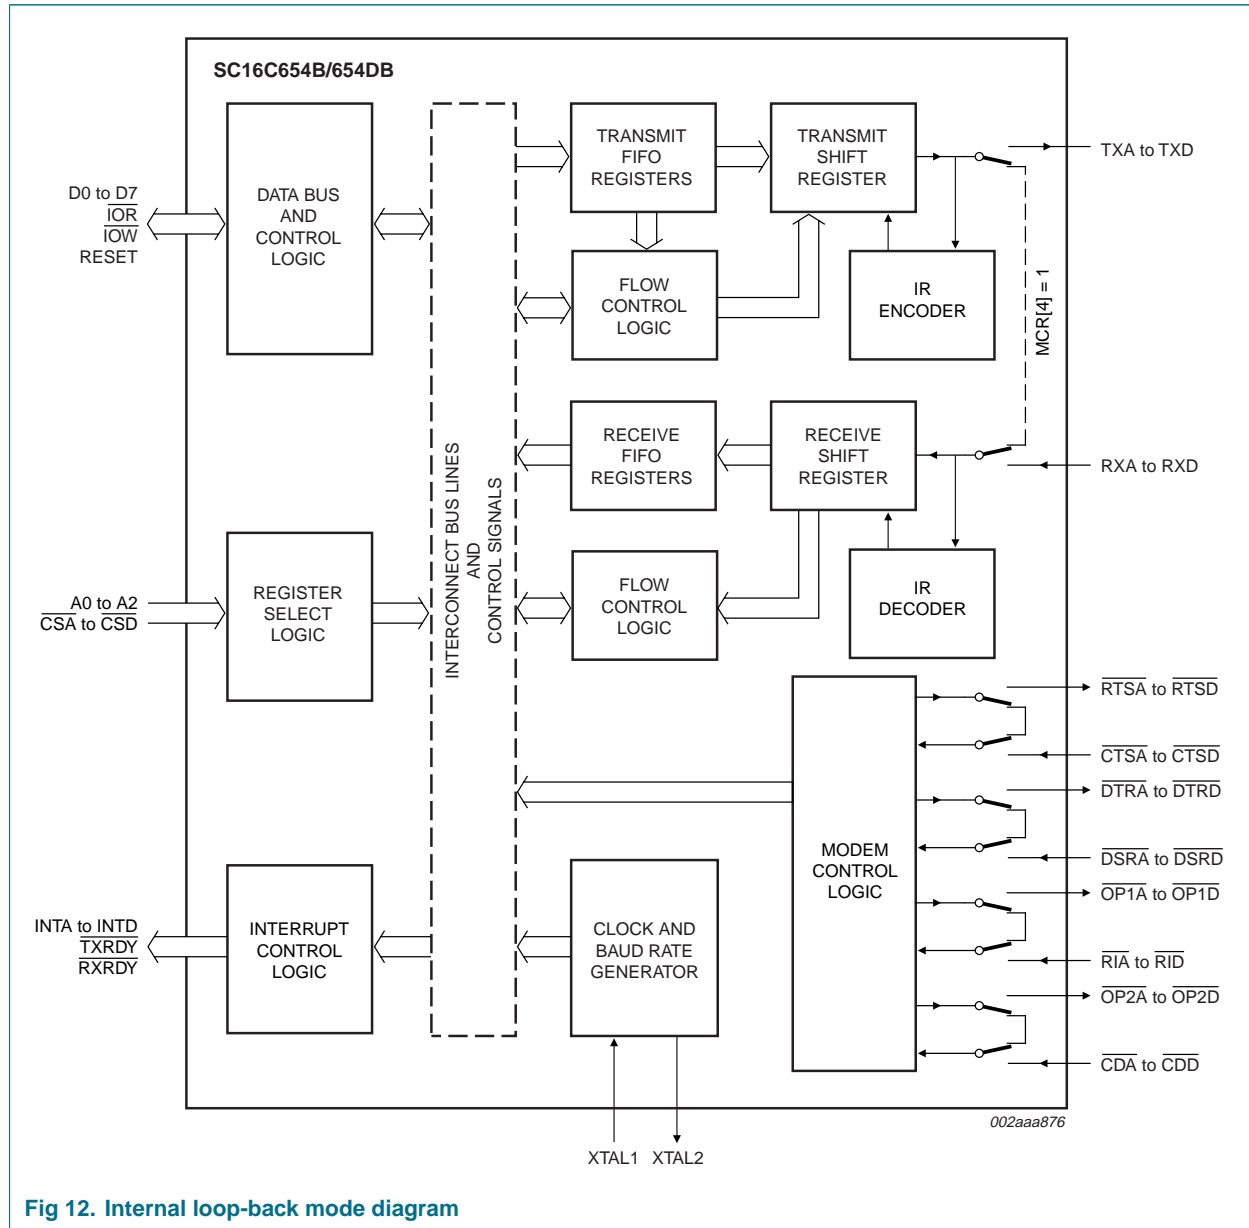

Fig 12. Internal loop-back mode diagram
The internal loop-back capability allows on-board diagnostics. In the loop-back mode, the normal modem interface pins are disconnected and reconfigured for loop-back internally. MCR[0:3] register bits are used for controlling loop-back diagnostic testing. In the loop-back mode, OP1 and OP2 in the MCR register (bits 2:3) control the modem \overline{RI} and \overline{CD} inputs, respectively. MCR signals \overline{DTR} and \overline{RTS} (bits 0:1) are used to control the modem \overline{DSR} and \overline{CTS} inputs, respectively. The transmitter output (TX) and the receiver input (RX) are disconnected from their associated interface pins, and instead are connected together internally; see Figure 12. The \overline{CTS} , \overline{DSR} , \overline{CD} , and \overline{RI} are disconnected from their normal modem control input pins, and instead are connected internally to \overline{RTS} , \overline{DTR} , $\overline{OP2}$ and $\overline{OP1}$. Loop-back test data is entered into the transmit holding register via the user data bus interface, D[0:7]. The transmit UART serializes the data and passes the serial data to the receive UART via the internal loop-back connection. The receive UART converts the serial data back into parallel data that is then made available at the user data interface D[0:7]. The user optionally compares the received data to the initial transmitted data for verifying error-free operation of the UART TX/RX circuits.